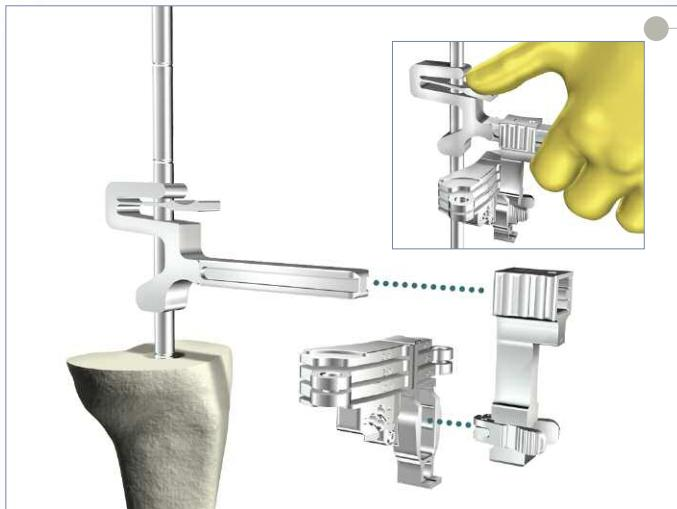

Figure 9
- ▶ Slide the Resection Guide Tower over top of the IM Reamer by depressing the finger tab as shown (**Figure 9 Inset**). Assemble the Revision Tibial Resection Guide to the Support Arm. Slide the assembly on to the Resection Guide Tower. Set distal/proximal resection level and rotation by depressing the finger tab on the Resection Guide Tower.